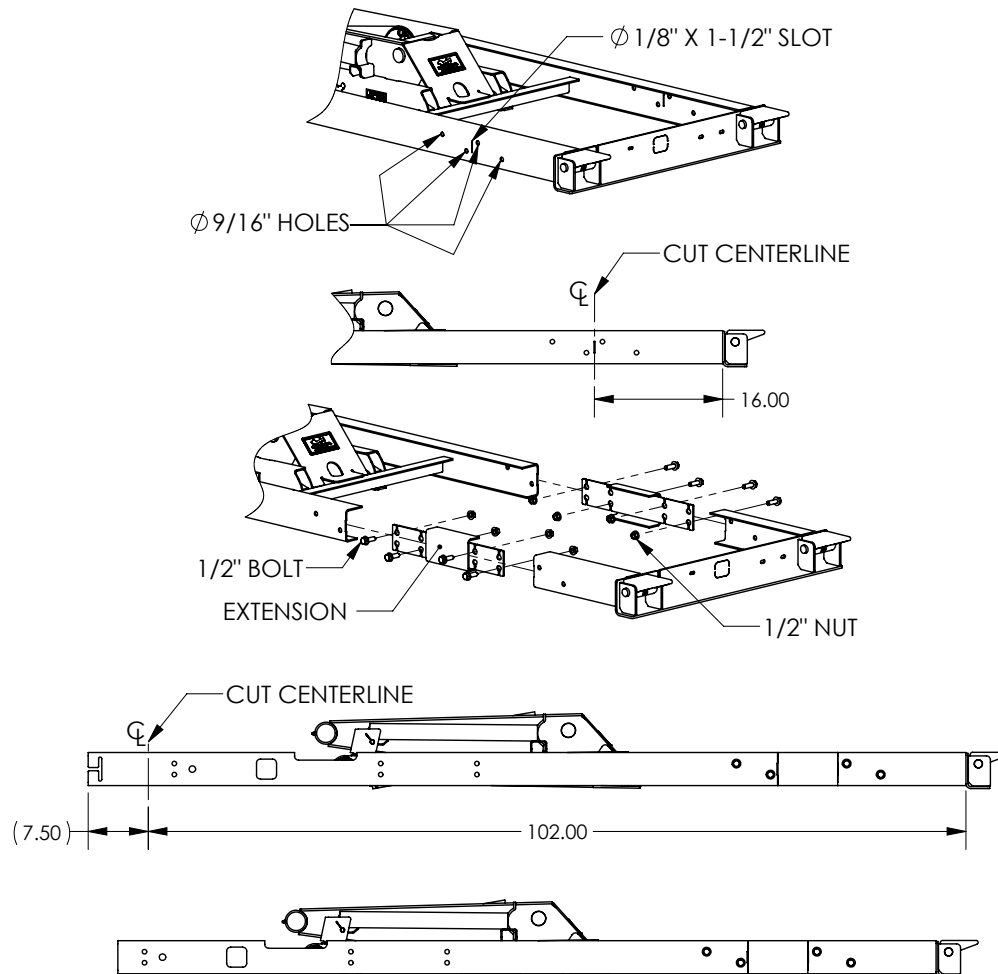

Figure 16
3. Cut through the left and right sub-frame channels at the cut centerline as shown in **Figure 16**.